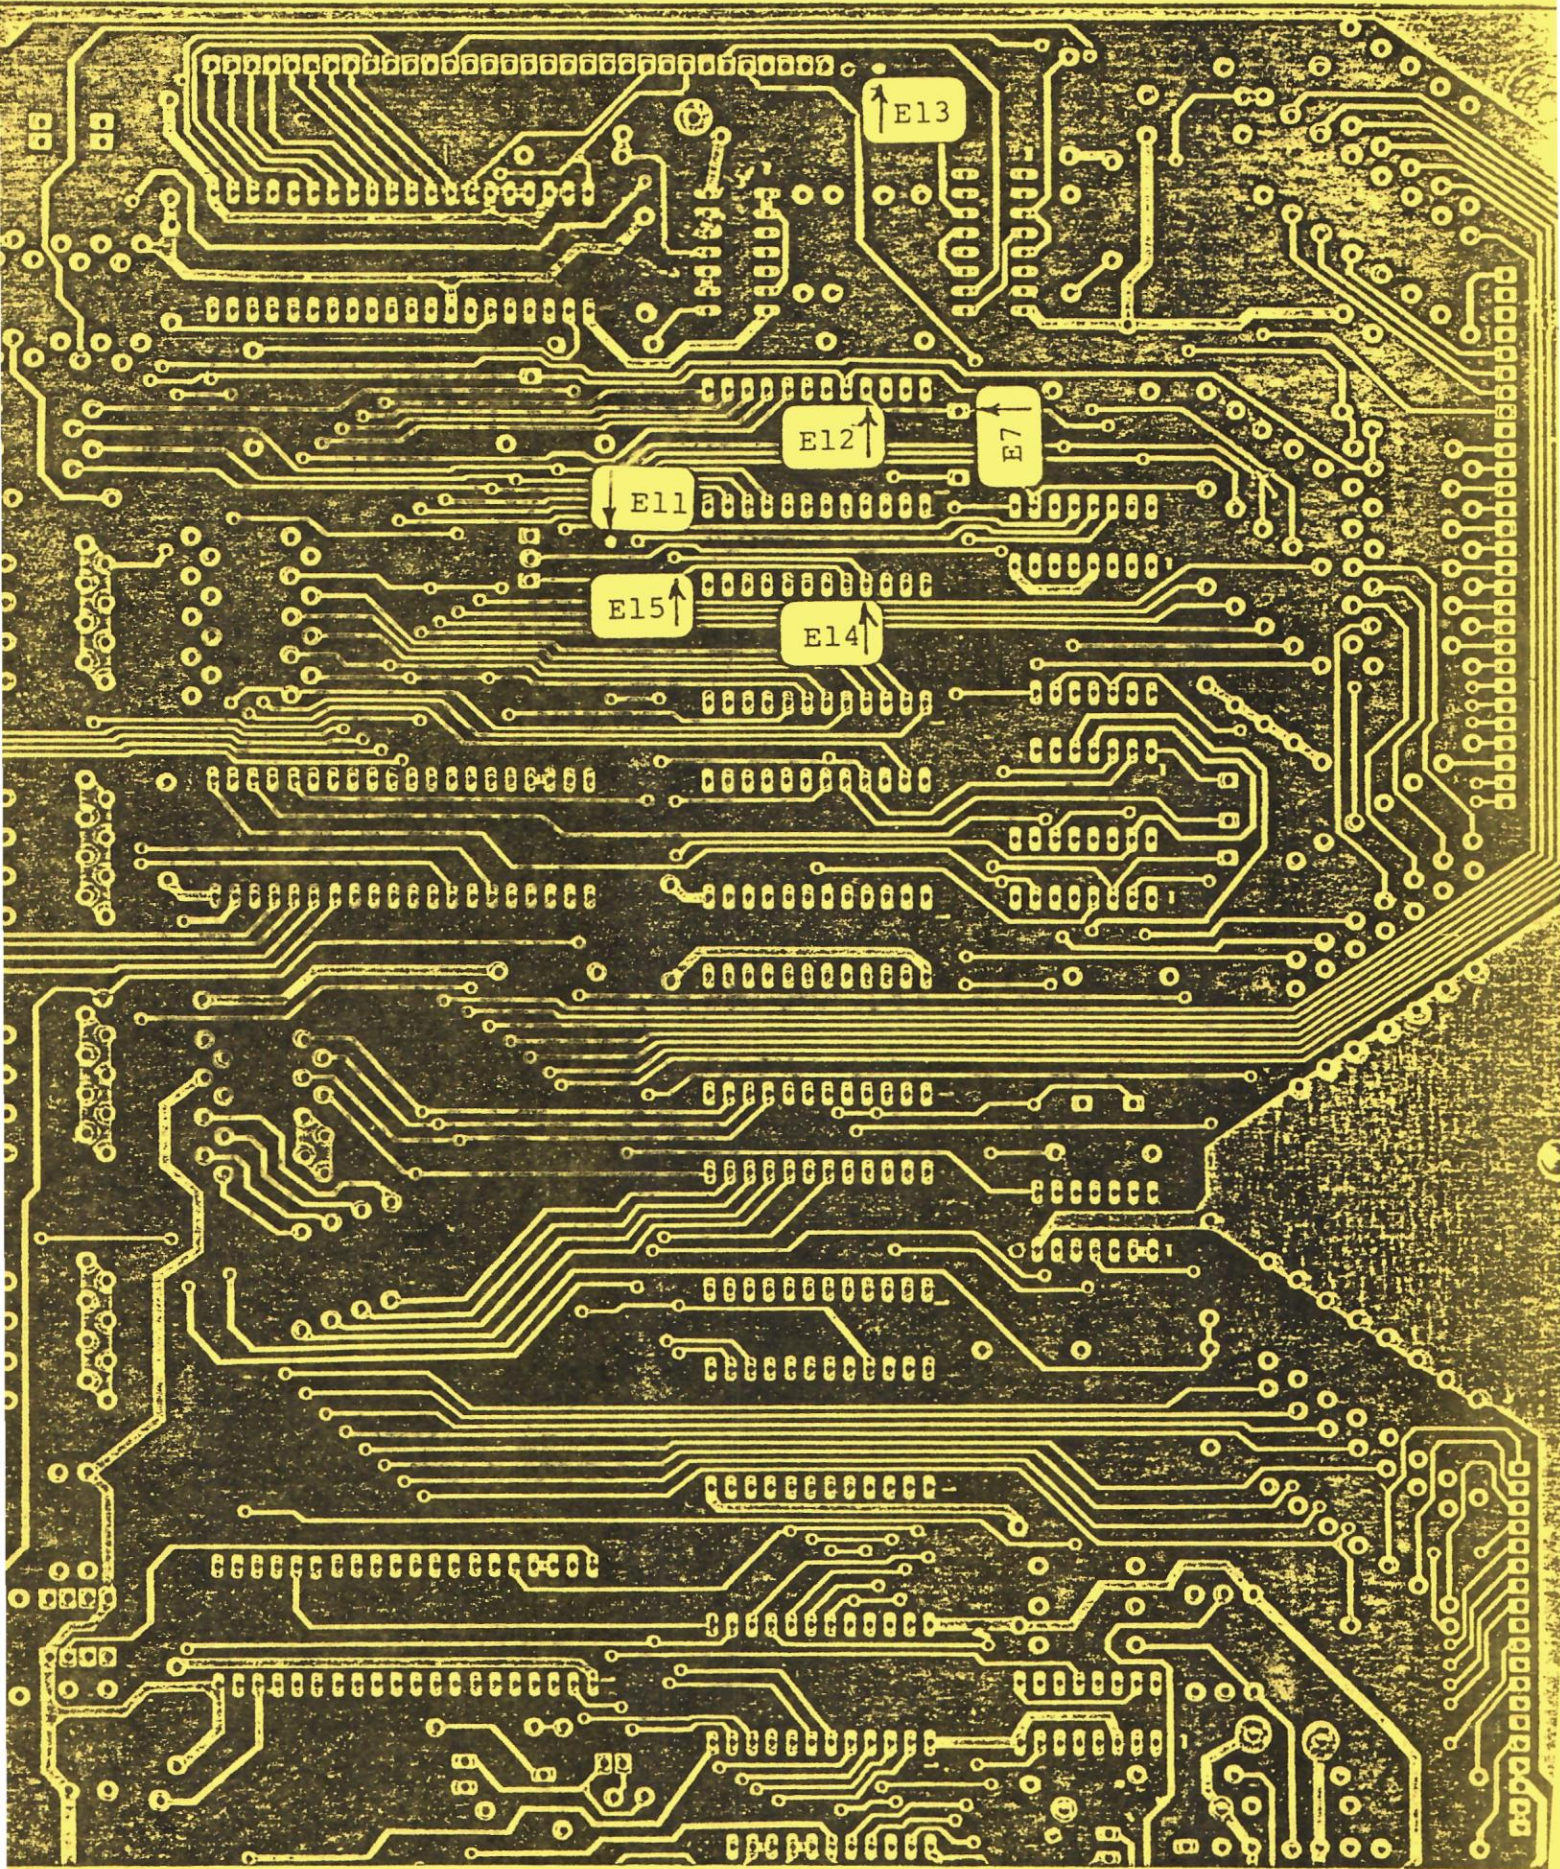

FIGURE 2
- U1-22 (backside) to A2 (backside - See Fig. 2)
10. Place the six "E" tie point labels on the backside of the MPU, locating them in the EXACT location shown in Fig. 2. Place the label "AS-2518-17 MODIFIED PER F.O. 597", on the topside between R39-R42 and the board edge.